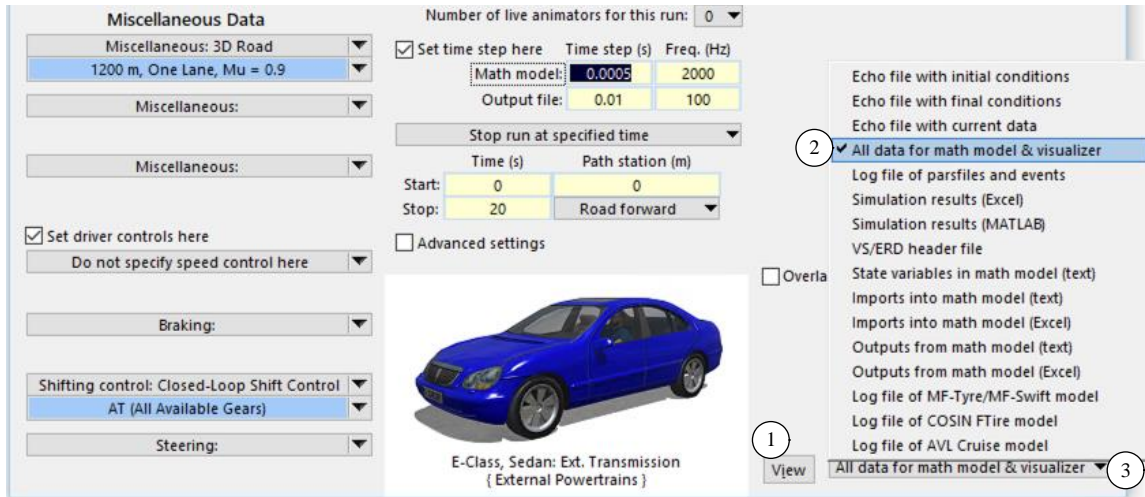

Figure 14. View the Run_all Parsfile for the run using the deprecated dataset.
In the lower-right corner of the **Run Control** screen (Figure 14), use the drop-down control ③ to bring up a list of types of machine-generated files to view. Select the item **All data for math model & visualizer** ② and then click the **View** button ① to see the file in a text editor (